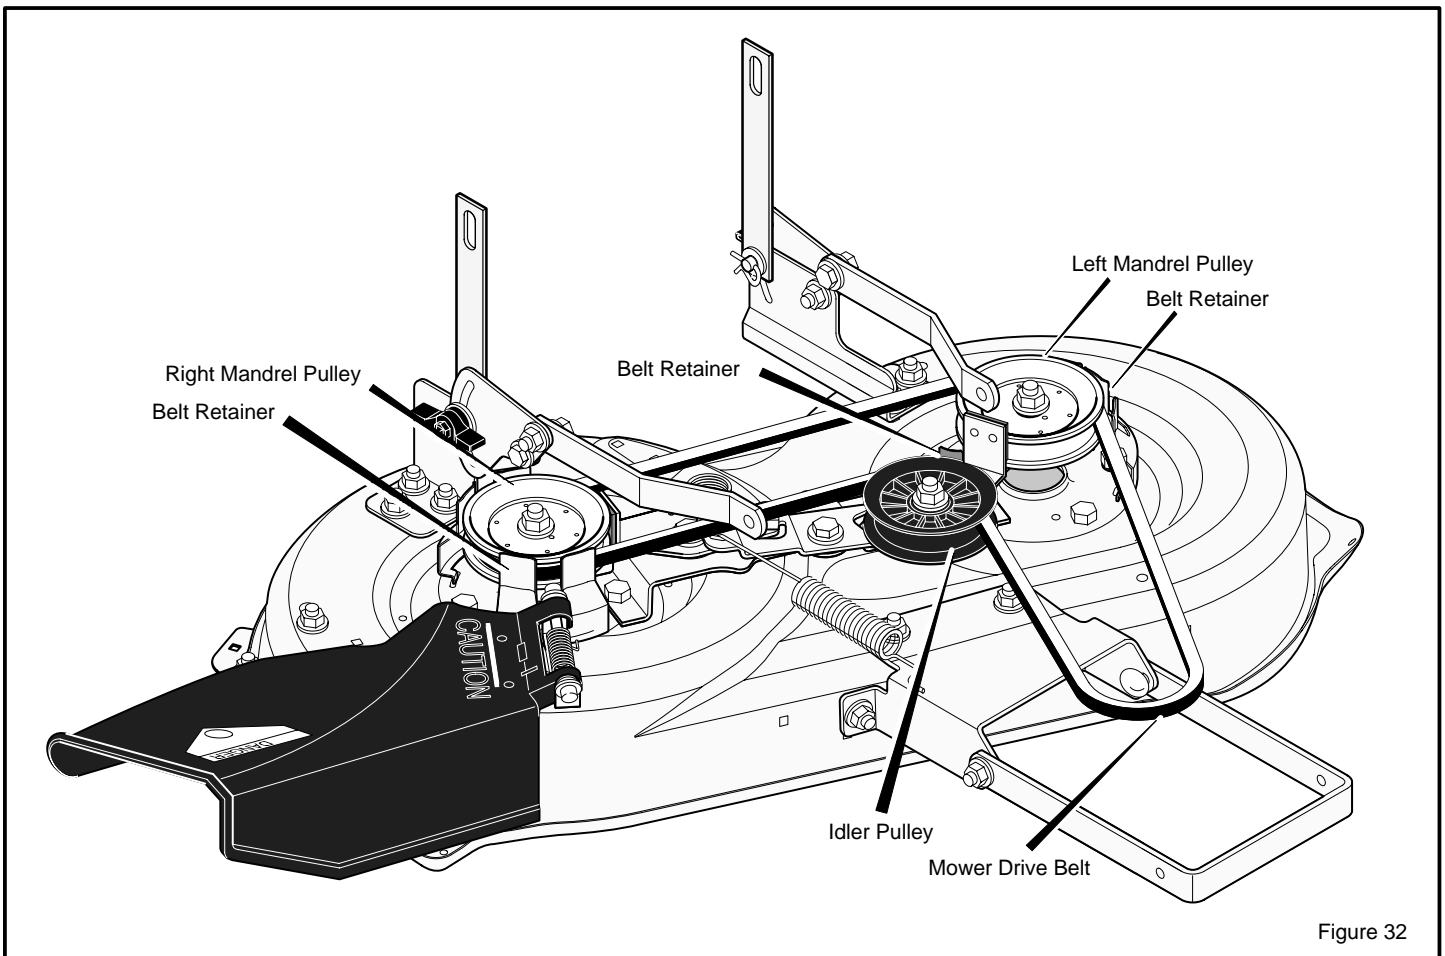

Figure 32
2. Pull the **belt retainer** away from the **idler pulley** and remove the **mower drive belt** (Figure 32).